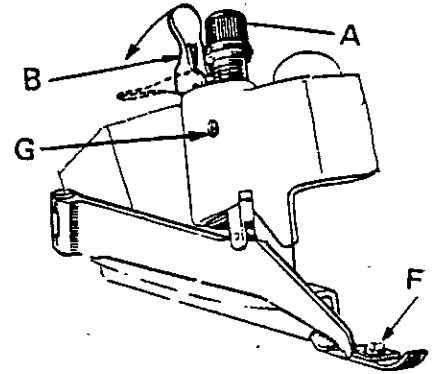

fig. 19
4. Lower lever B as far as it will go (fig. 19).
c) Positioning and adjustment of presserfoot (fig. 19)